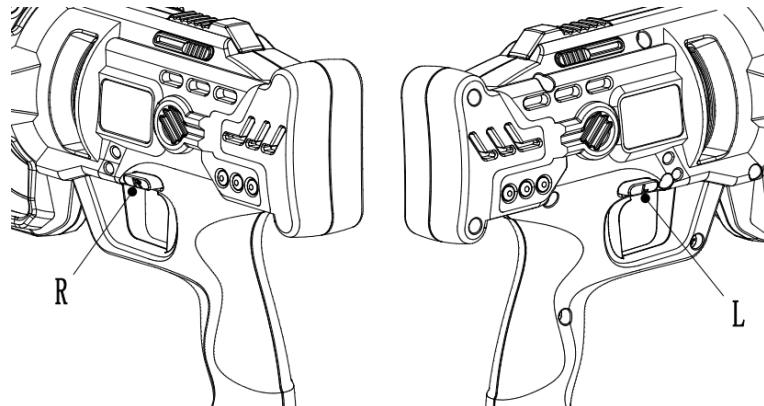

Figure 3
**Note: The reverse rotation is only used to release the flexible shaft in the clamped state (Fig. 3).**